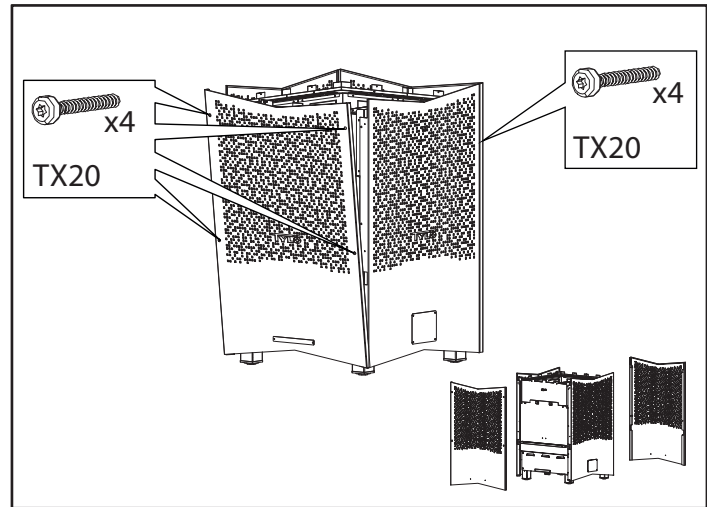

Figure 7: Remove the front and back panels by unscrewing the hidden screws, torx 20.
1. Unscrew and remove the front and back panels, see Figure 7.